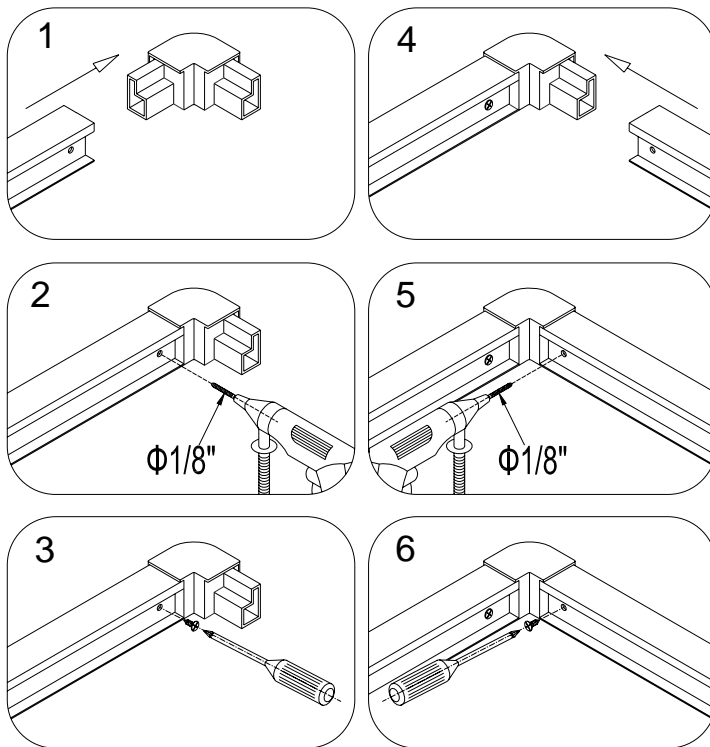

Fig. 7
8. Locate the **Front Left & Right stationary glass panels** from the package. Attach the **Connectors (08)** to the guide rails of both glass panels at the bottom and the top with **ST4.2x10 screws (10)**. **Do not overtighten them or you can brake the Connectors.** See Fig 7 for details.